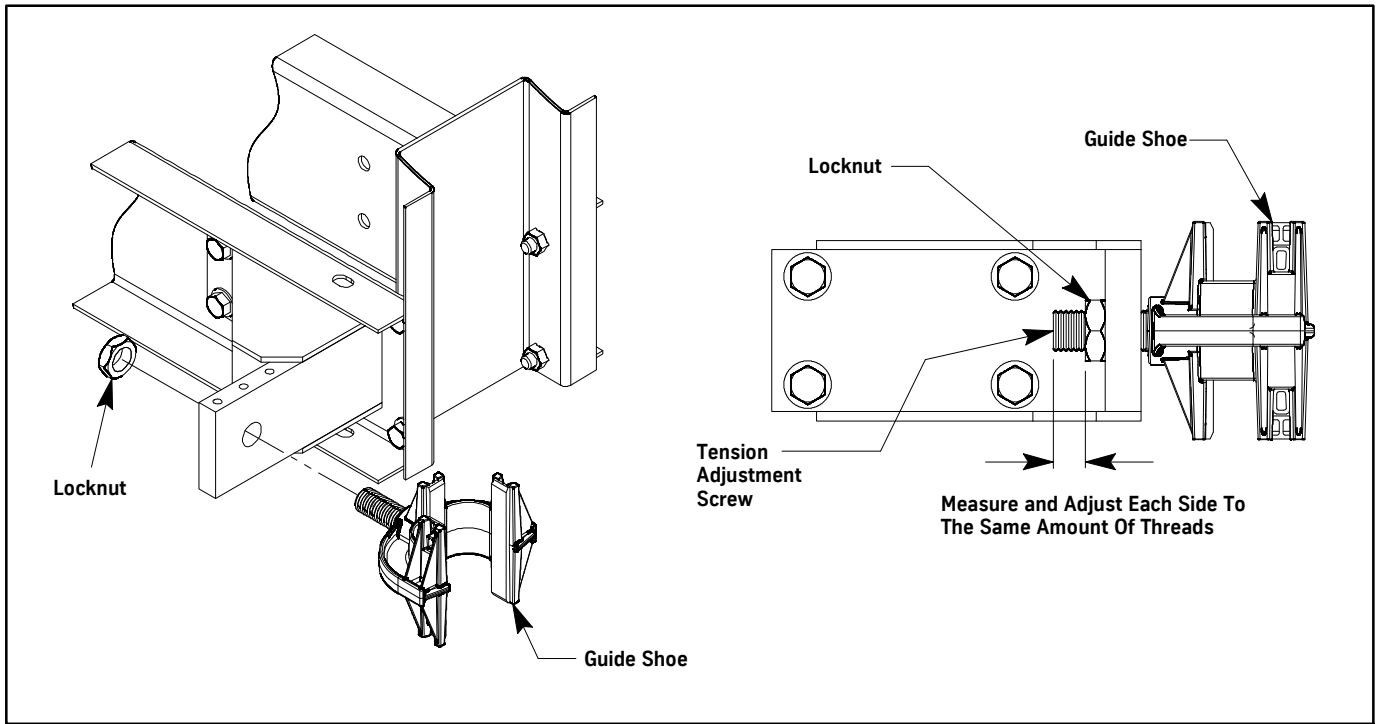

Figure 15 - Bottom Guide Shoe Installation
3. Install the bottom guide shoes on the shoe mount weldment. See Figure 15.
5. Measure the amount of thread protruding past each locknut and adjust until both sides are equal to ensure equal spacing and tension. See Figure 15.